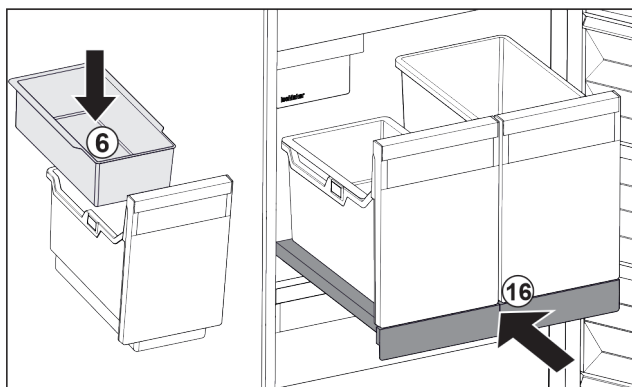

Fig. 106
- ▶ Insert hang-on tray Fig. 106 (6) for ice cubes.
- ▶ Slide in the pull-out board with container (IceTower). Fig. 106 (16)